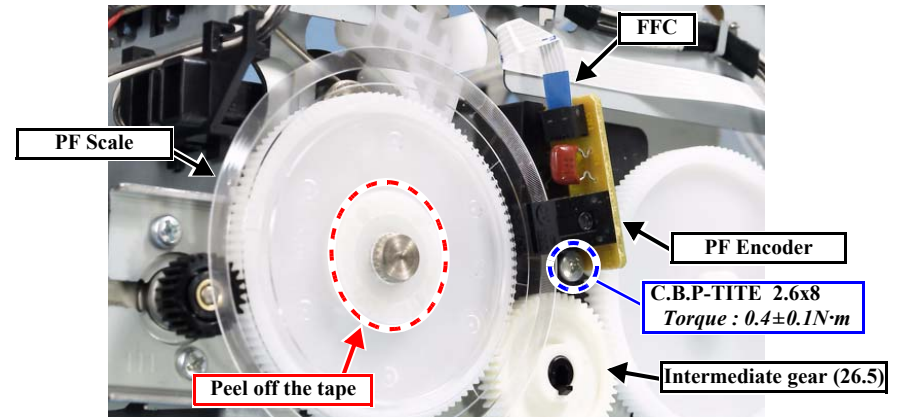

Figure 4-56. Removing the PF Encoder / PF Scale
2. Disconnect the FFC of the PF Encoder, remove the screw, and remove the PF Encoder. (Fig. 4-56)